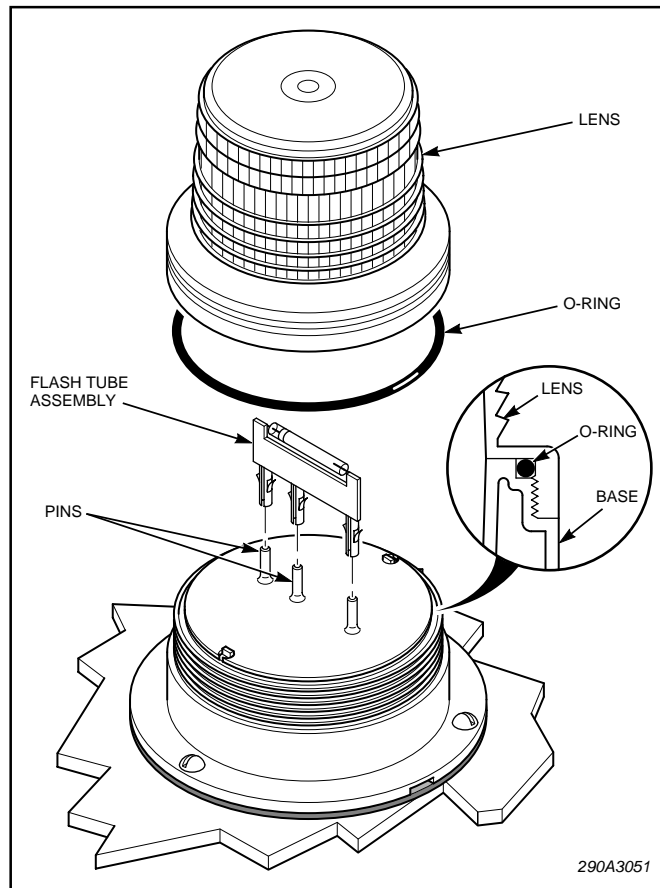

Figure 2.
C. Grasp the flash tube by its printed circuit board and pull it off of the pins, using a gentle "rocking" motion. See figure 2. Install a new flash tube. Ensure that the O-ring seal rests flat on the base and reassemble the light.